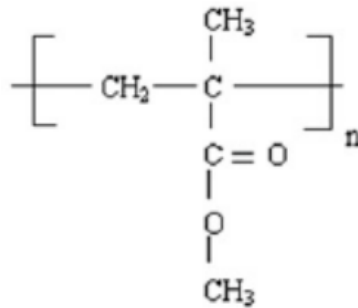

Figure 1 (c) / Rajah 1 (c)
- ii. The number average molecular weight (M_n) and degree of polymerization (DP) of the homopolymer by using the repeating unit as indicated in Figure 1(c).